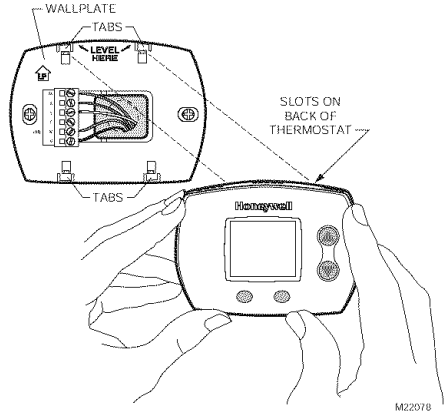

Fig. 15. Mount thermostat to wallplate.
1. Align the four tabs on the wallplate with the four slots on the back of the thermostat. Push the thermostat straight onto the wallplate until it snaps into place. See Fig 15.